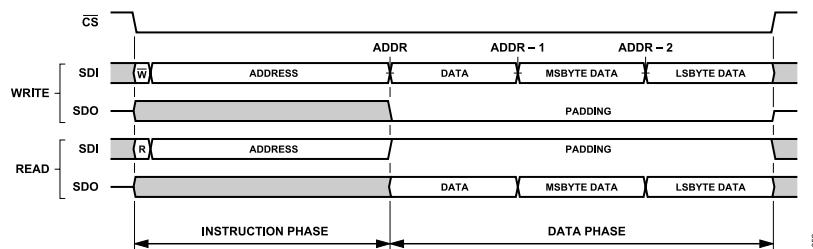
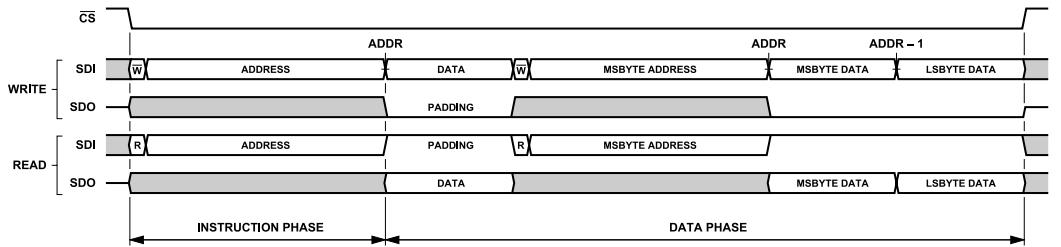
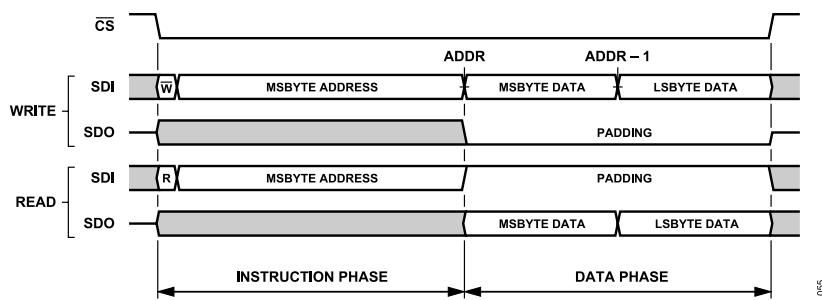
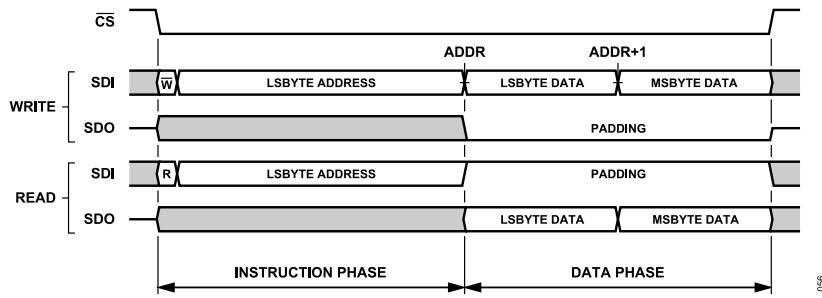

Figure 54. Interface Access Example, Default Interface Configuration, Streaming Mode (ADDR_ASCENSION = 0)
Figure 55. Interface Access Example, Single Instruction Mode (SINGLE_INST = 1), All Other Interface Options Default
Figure 57. Single Instruction Format, ADDR_ASCENSION = 0 (Descend), STRICT_REGISTER_ACCESS = 1 (Enabled)
Figure 58. Single Instruction Format, ADDR_ASCENSION = 1 (Increment), STRICT_REGISTER_ACCESS = 1 (Enabled)
Figure 54 illustrates the generic SPI frame formatting for a serial transaction using the default interface configuration. In this example, a portion of the configuration register space consisting of a byte-wide register and a multibyte register is accessed. The address for the byte-wide register resides in the most significant address (ADDRESS) and the most significant byte of the multibyte register resides in the least significant address of the register segment. By default, the ADDR_ASCENSION property is set to descending, indicating that the address for the most significant register is passed to the host controller during the instruction phase. Depending on the selected operation, the instruction word
In single instruction mode (SINGLE_INST = 1), the memory access controller requires an instruction phase to transmit for each register accessed in a given SPI frame as illustrated in Figure 55. This mode is useful when access to nonadjacent sections of the register space is required in a given SPI frame. Note that, the same access flexibility can be achieved in stream mode by initiating a new SPI frame for each unique register access.
The address ascension selection (ADDR_ASCENSION) bit, as described in previous sections, determines how the internal interface address pointer is updated for each byte of data transmitted to the AD4083 in streaming mode (SINGLE_INST = 0). If using single instruction mode (SINGLE_INST = 1), each register is directly addressed through its own instruction phase as illustrated in Figure 55, and thus, the address pointer is not updated. Regardless of the setting for SINGLE_INST, the ADDR_ASCENSION bit directly impacts the formatting of the SPI frame in terms of selection of the instruction phase starting address and byte order of the data phase payload. This impact is described in greater detail in the Strict Access Selection and Multibyte Registers section as much of the data formatting is dependent on this interface configuration selection. The ADDR_ASCENSION selection bit is located in the Interface Configuration A register (see the Interface Configuration A Register section, Address 0x00).
As indicated in Figure 57, the address counter, by default, automatically decrements (ADDR_ASCENSION = 0) such that the most significant byte of the multibyte register is accessed first, followed
As an extension of this concept, when STRICT_REGISTER_ACCESS = 1, any SPI frame that accesses a multibyte register as the first entity in the data transfer must correctly set the starting address in the instruction word to correspond to the ADDR_ASCENSION selection. In the case that the address counter automatically decrements (ADDR_ASCENSION = 0), the starting address is assigned to the register address for the least significant byte of that multibyte register, and conversely, if configured to increment automatically, the starting address must be set to the register address for the most significant byte. As a result of the change to ADDR_ASCENSION from automatic address decrement (0) to automatic increment (1), Figure 54 and Figure 55 will change as illustrated in Figure 57 and Figure 58 to accommodate the changes in data phase byte order and instruction phase multibyte register start address.